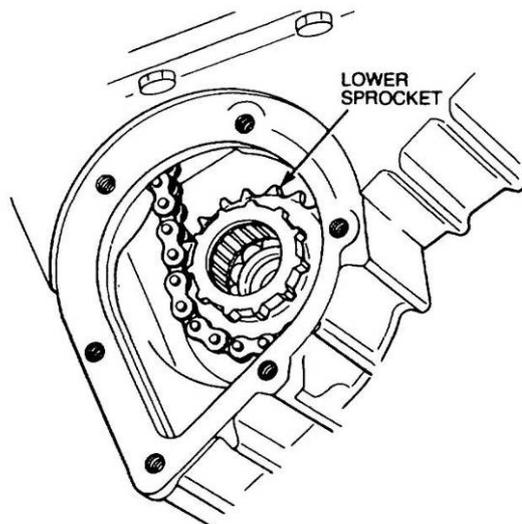

Figure 88 Removal of the PTO Chain
- k. Lift the lower sprocket up and remove the chain from the sprocket (Figure 88) Remove the chain from the upper sprocket and withdraw the chain through the opening in the transfer case. Remove the lower sprocket from the PTO housing.